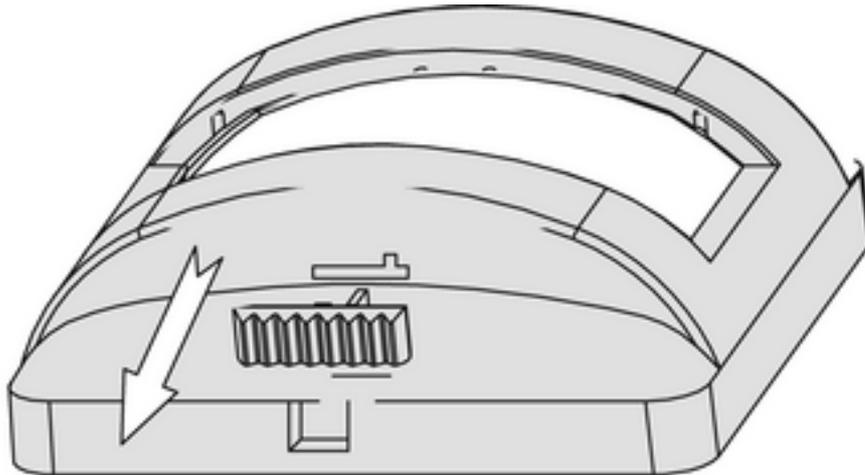

Figure 5: Removing the operating mode switch
Three operating modes can be set using the operating mode switch (4) on the motion detector (Figure 5).
- Carefully remove the switch with a screwdriver (Figure 5).